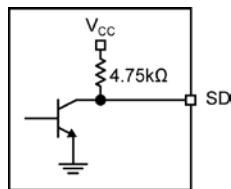

Figure 4. SD Output Structure
The SY88345BL generates a chatter-free SD open-collector TTL output with an internal  $4.75\text{k}\Omega$  pull-up resistor, as shown in Figure 4. SD is used to determine that the input amplitude is large enough to be considered a valid input. SD asserts high if the input amplitude rises above the threshold sets by  $\text{SD}_{\text{LVL}}$  and de-asserts low otherwise. SD can be fed back to the enable (EN) input to maintain output stability under a loss-of-signal condition. EN de-asserts the true output signal without removing the input signals. Typically, 3.5dB SD hysteresis is provided to prevent chattering.